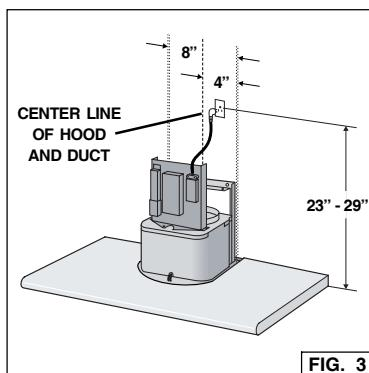

FIG. 3
3. Mount the receptacle 23" to 29" above the bottom of the hood. Fig. 3
4. Locate the receptacle within boundary shown and off center of the ductwork (to allow for power cord plug and flue clearance). Fig. 3